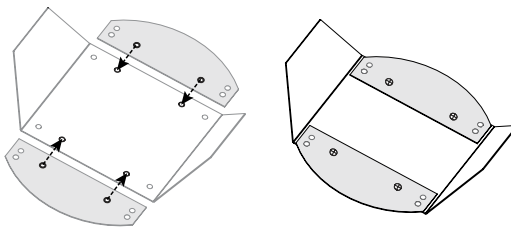

Figure 24
Installation of the provided vent restrictor assembly is required for the venting configurations listed in **Figure 24**.
1. Refer to **Figure 24**.